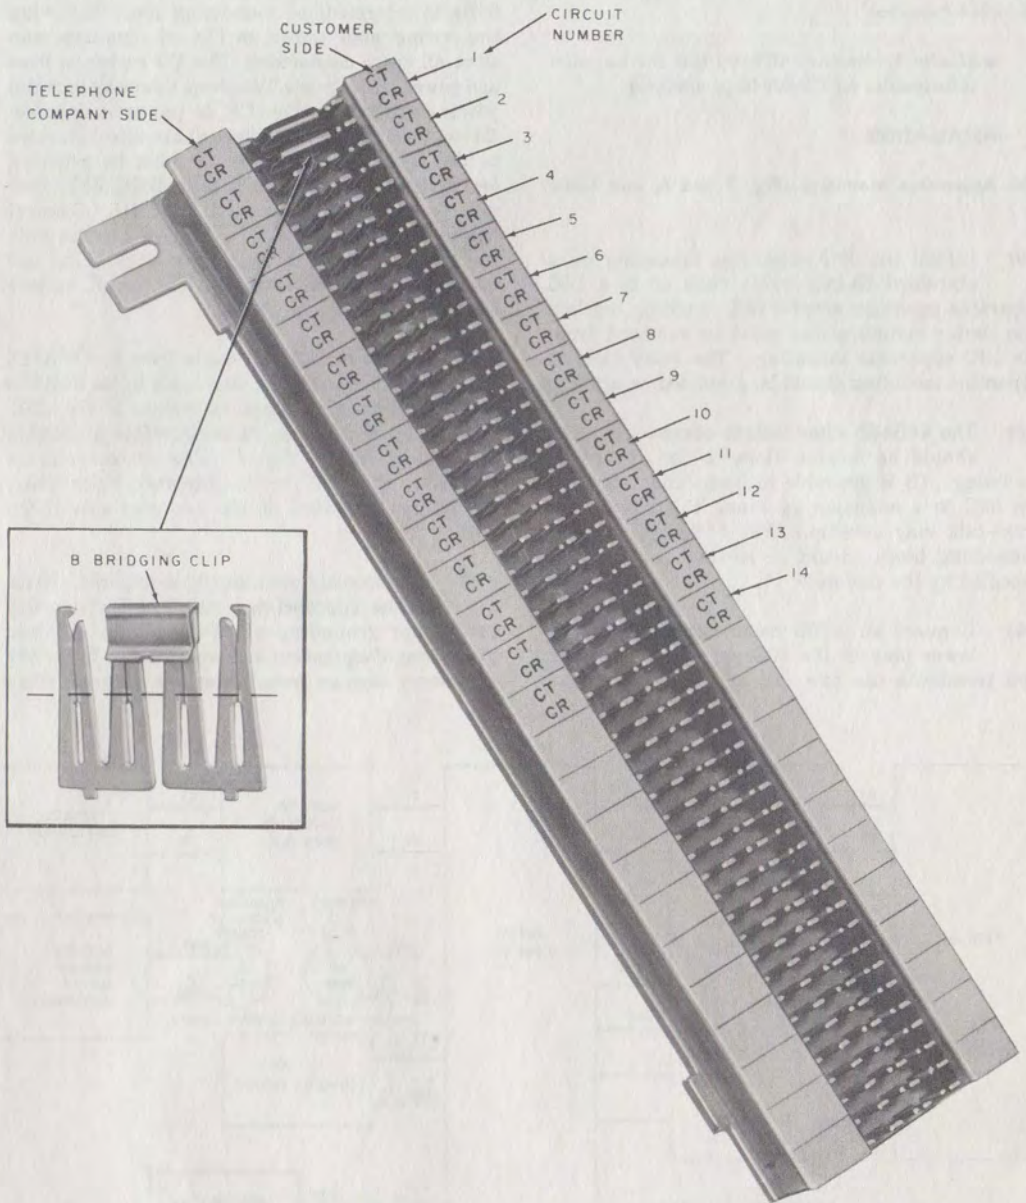

Fig. 4—66M1-50 Interface Connecting Block
- Block, Connecting, 66M1-50 (as required, Fig. 4).
- Clip, Bridging, B (as required, shipped 25 per package, Fig. 4).
3.04 Extend the CT, CR from the 66B4-25 intermediate connecting block to the 66M1-50 interface connecting block for access to the CPE. Stencil lead designations on the interface connecting block as shown in Fig. 4. The customer must terminate the CPE on the interface block using the terminal stenciled on the customer side of the block.
3.09 Locate the 66M1-50 interface connecting block at a location specified by the customer. Connect the other connector cables to P2, P3, and P4 on the 604B panel and terminate at the customer end on the 66M1-50 interface connecting block. (Stencil lead designations on the fanning strip as shown in Fig. 4. See Table C for connections.) Insulate and store spare leads. The customer
6.01 For connection information using the 69G apparatus mounting, refer to Fig. 4, 5, and 6, and Table E.